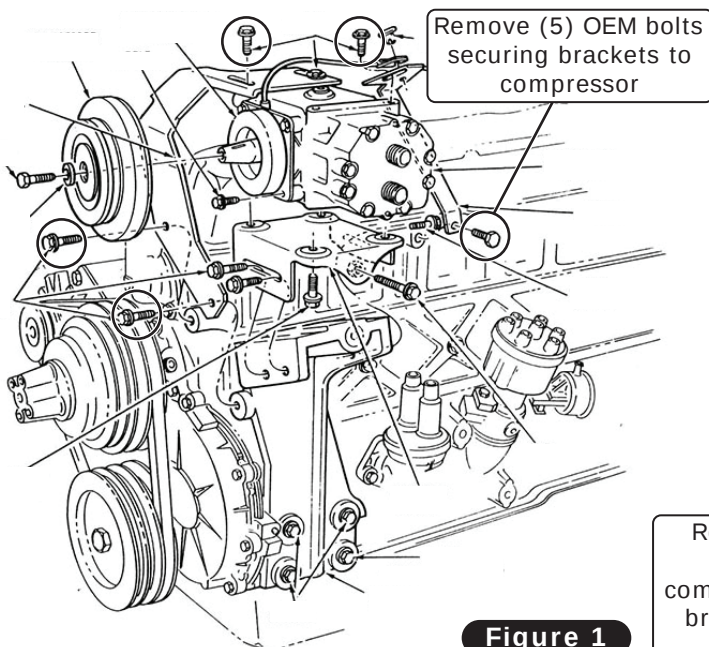
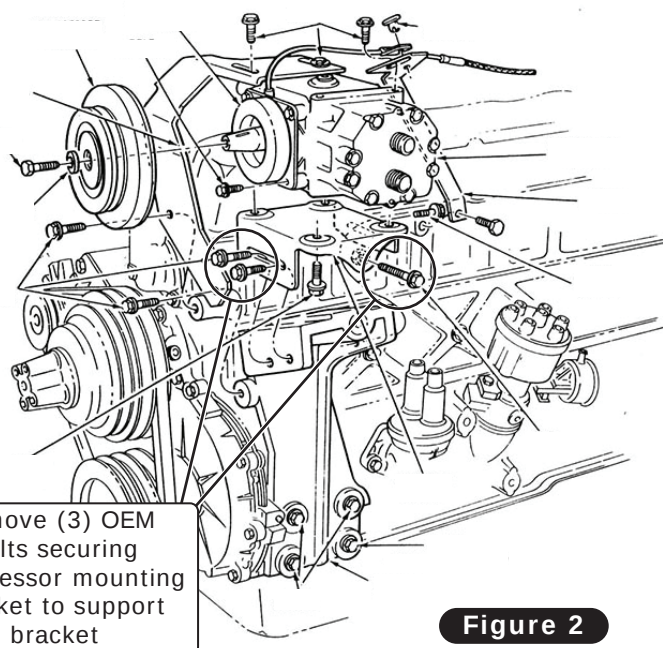

Figure 1
Figure 2
5. Remove the (5) OEM bolts securing the brackets to the compressor (See Figure 1, below) and the (3) bolts securing the compressor mounting bracket to the support bracket (See Figure 2, below), then remove the compressor.